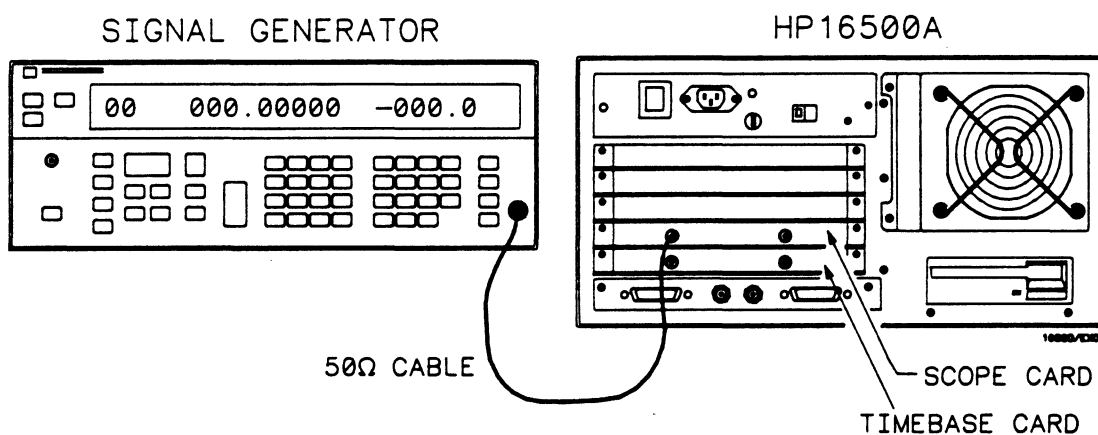

Figure 3-15. Test Equipment Hookup
- d. Connect signal generator as shown in figure 3-15.